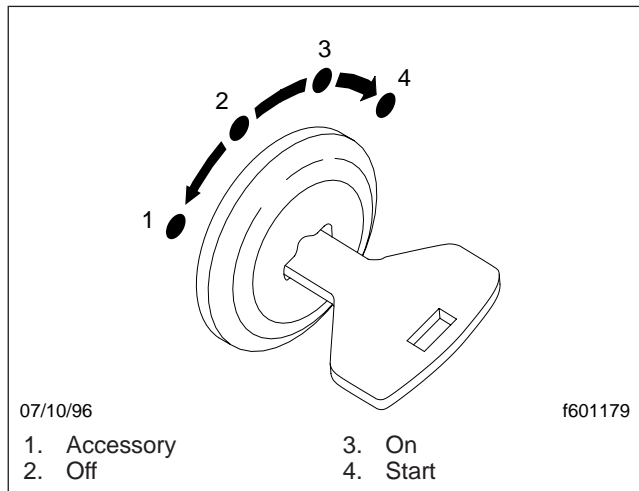

Fig. 3.1, Ignition Switch Positions
1. Turn the ignition switch to the ON position. See Fig. 3.1. The CHECK ENGINE indicator comes on for five seconds.
1. Turn the ignition switch to the ON position. See Fig. 3.1. The CHECK ENGINE indicator comes on for five seconds. Leave the ignition switch in the ON position until the CHECK ENGINE indicator goes out.
1. Turn the ignition switch to the ON position. See Fig. 3.1. All of the electronic gauges on the ICU (instrumentation control unit) complete a full sweep of their dials, the warning and indicator lights light up, and the buzzer sounds for three seconds.
The intake air preheater is activated by turning the ignition switch to the ON position. See **Fig. 3.1**. If the engine is at normal temperature, the INTAKE HEATER indicator goes out after two seconds.
Turn the ignition switch to the ON position. See **Fig. 3.1**. If the engine is at normal temperature, the INTAKE HEATER indicator goes out after two seconds.
The intake air preheater (if so equipped) is activated by turning the ignition switch to the ON position. See **Fig. 3.1**. If the engine is at normal temperature, the INTAKE HEATER indicator goes out after two seconds.